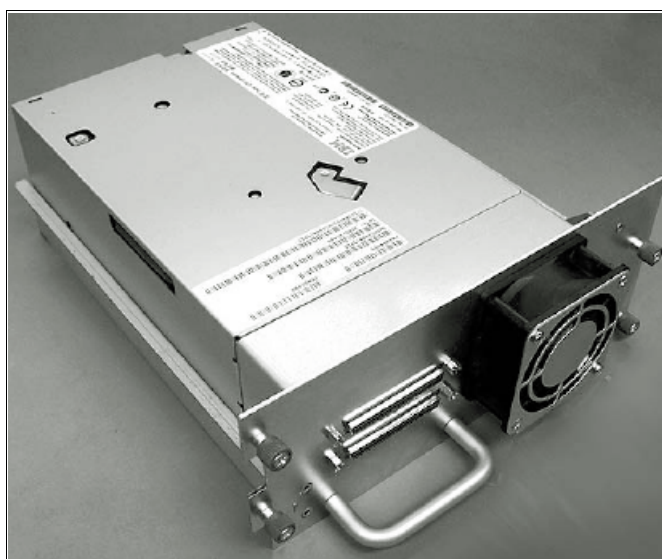

Figure 9-5 Ultrium Drive Sled
Each IBM Ultrium 4 Tape Drive contains the electronics and logic for reading and writing data, controlling the tape drive, managing the data buffer, and handling error recovery procedures. Because of its special design as a CRU, the drive can easily be replaced if necessary. Figure 9-5 shows the Ultrium 4 drive sled with a SCSI interface. The same drive sled can also contain the 4 Gbps Fibre Channel drive or the SAS drive. For additional details, refer to 2.4.1, “IBM LTO4 Full-High (FH) Tape Drive” on page 76 and to 2.4.2, “IBM LTO4 Half-High (HH) Tape Drive” on page 77.
Figure 9-5 shows the Ultrium 4 Tape drive sled with a SCSI interface. A similar drive sled is also used for the 4 GB Fibre Channel (FC) drive and the SAS drive.